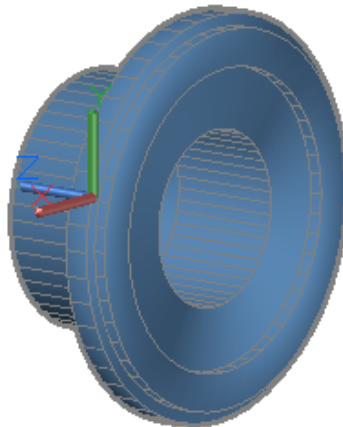

Figure Step 11
Step 11 Using 3D Orbit, orbit the model as shown in the figure. (Figure Step 11).